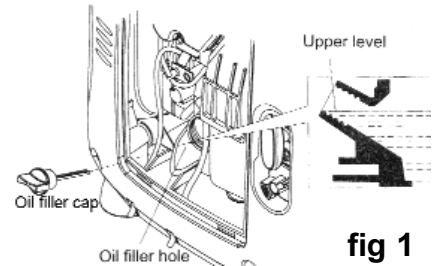

fig. 1
- 3.1.6 Use only high-detergent, premium quality 4-stroke engine oil. Refer to fig. 1.